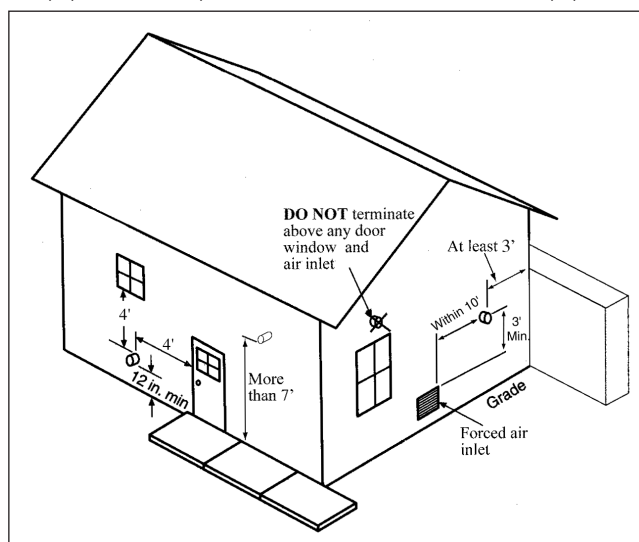

Fig. 15 - Termination Clearances of Category IV System
5. The vent termination must also maintain the following clearances; as shown in **Fig. 15 below**.
5. The vent termination must also maintain the following clearances; as shown in **Fig. 15 on page 26**.